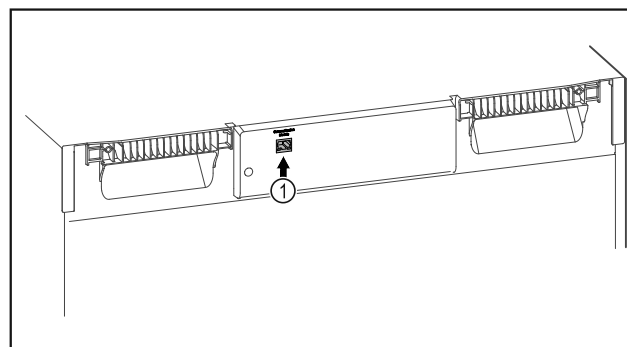

Fig. 136
- ❑ SmartModule Fig. 136 (1) is in use.